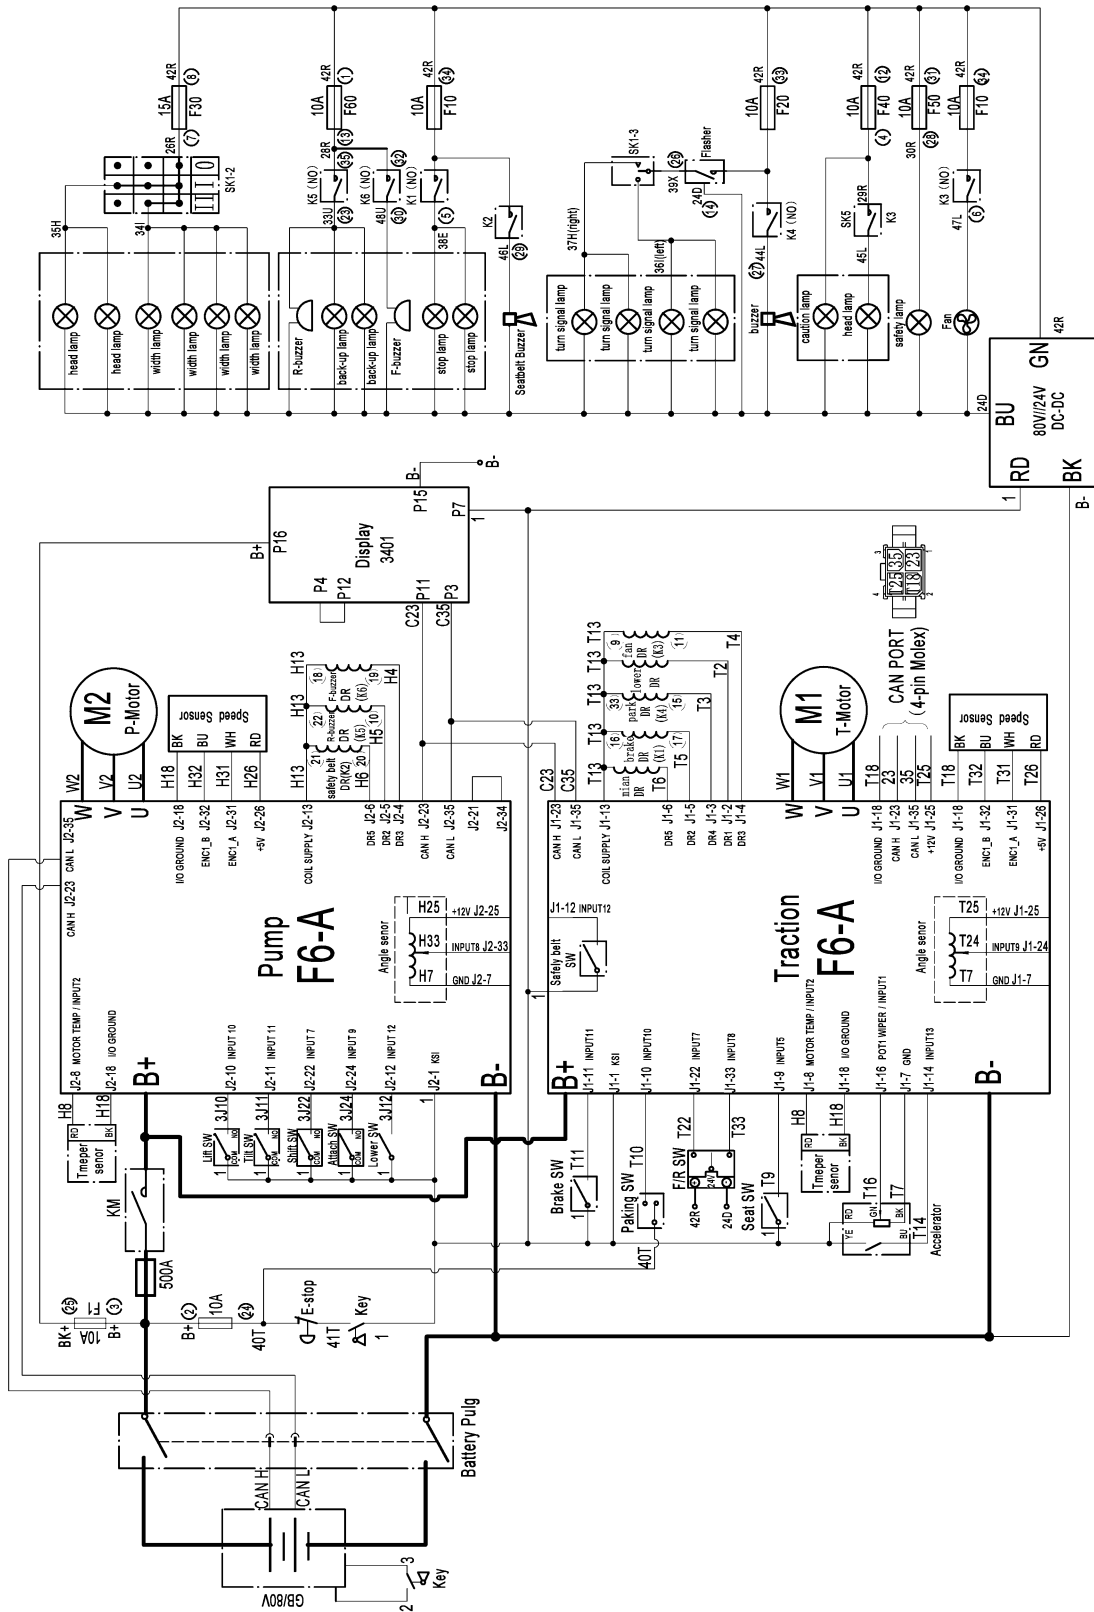

Figure2-12 Electrical schematic diagram—Curtis
- (1) Shorten the putter;
- (2) Adjust the pedal limit bolt, as shown in Figure 2-12. (b) Adjust the pedal height;
- (3) Adjust the length of the push rod until the front end of the push rod contacts the piston of the main pump, and then retreat 1-2 turns to ensure that the free travel of the pedal is between 10mm-20mm;
- (4) Lock the push rod nut and pedal limit bolt nut.
4.2.1 Electrical schematic diagram—Curtis(Figure2-12)